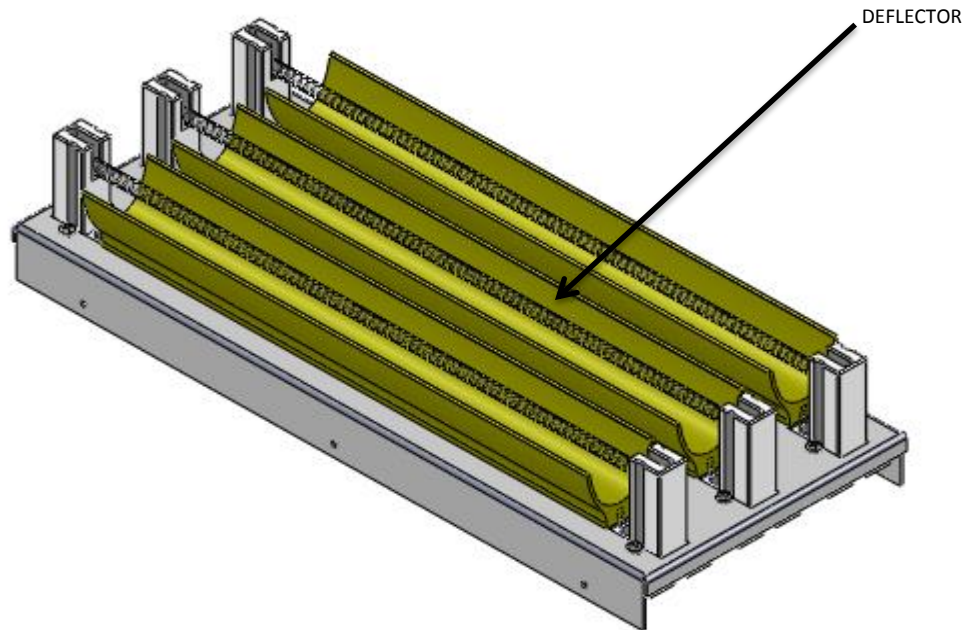

Figure 10 Infrared Lamp Position
- Carefully detach the IR lamp from the holder and discard the lamp according applicable government regulations. Clean the IR lamp deflector with clean cloth to remove any residues (see Figure 10).